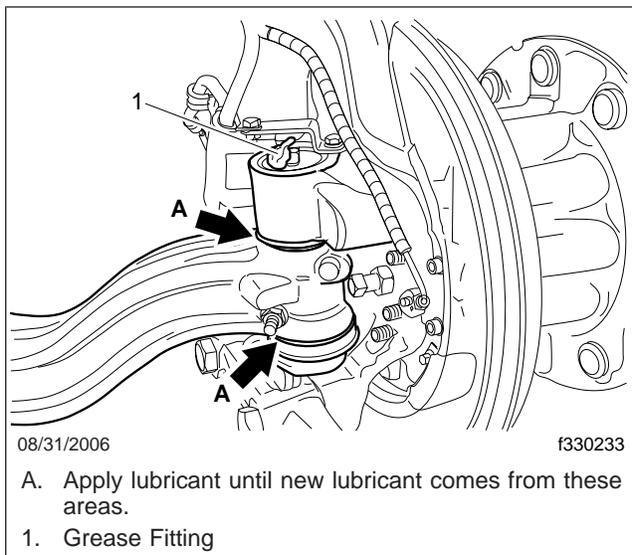

Fig. 1, Kingpin Lubrication
4. Using a multipurpose grease, NLGI grade 2, lubricate the kingpins through the grease fittings on the top and bottom of the knuckle. See Fig. 1.